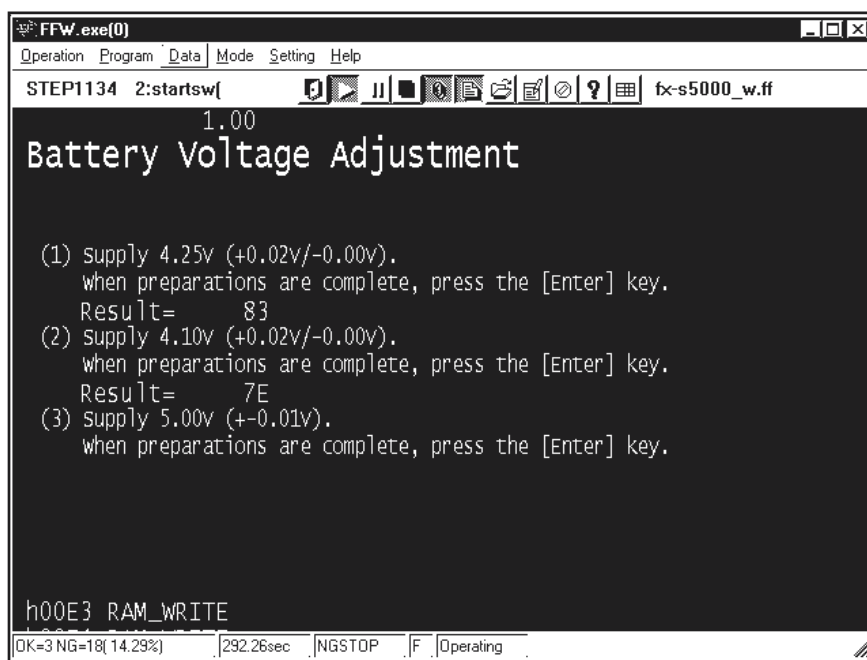

Fig.26
---> The **[Battery Voltage Setting Screen 3.00V (Fig.26)]** appears.